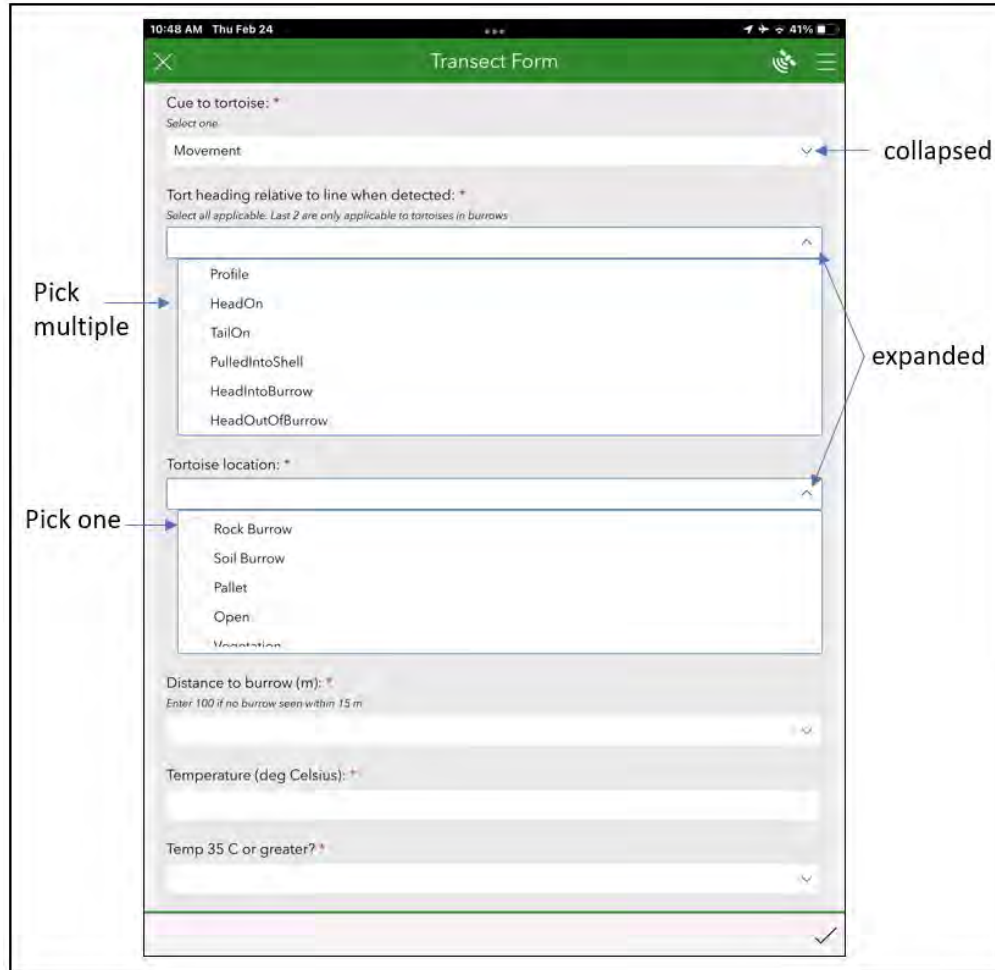

Figure 7-9
- 2. Pick-list Fields** – Pick list fields allow entry of pre-defined options, which prevents spelling errors. Pick-one fields have circles next to each option, pick-multiple fields have squares (Figure 7-9). Pick-multiple fields allow but do not require multiple options to be chosen. Pick lists are collapsed by default, tap on the  symbol to the right of the field to expand the option list. An entry can be chosen by tapping anywhere on its row (not just in the circle or square on the left) so be careful when scrolling through lists to not accidentally choose an incorrect option.